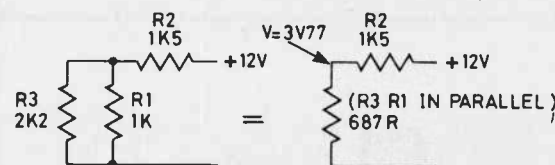

Fig. 3. How the circuit of Fig. 1 looks when the 10V terminals are shorted.
2. Now imagine the 10 V terminals shorted, and the 12 V supply restored. The circuit now looks as in Fig. 3, with R1 and R3 in parallel. Combining 2k2 and 1k in